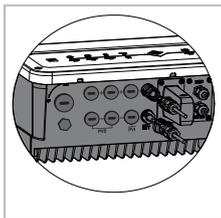

Figure 4.1-1
- **Battery Connection:** Confirm the connection between BT and battery : polarities ( +/-) not reversed, refer to Figure 4.1-1